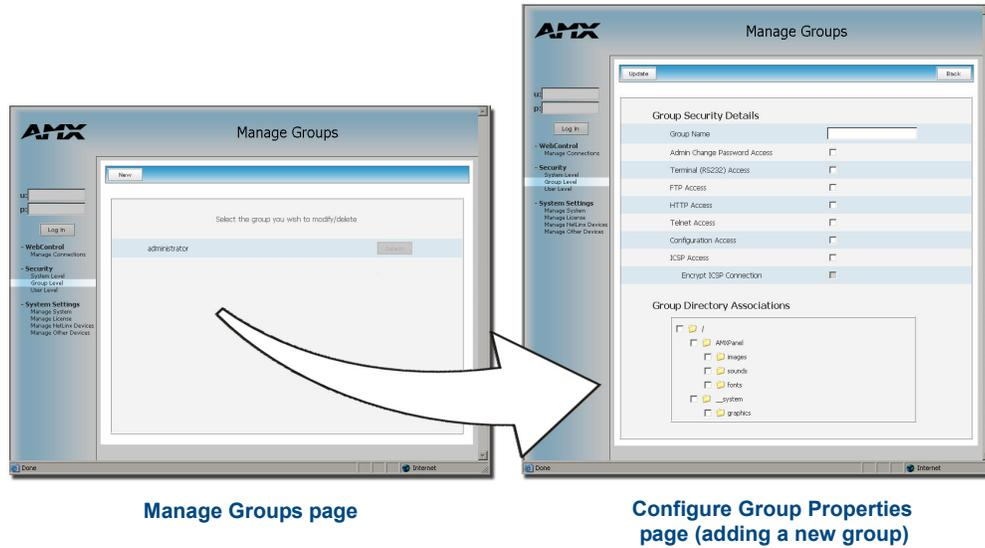

FIG. 39 Group Level Security - Manage Groups Security page
To access this page, click the **Group Level** link (from within the Security section of the Navigation frame). This page (FIG. 39) allows an authorized user to both select and modify an existing group, delete an existing group, or add a new group. Unless you are logged in with administrator privileges, you will not be allowed to modify the default administrator profile.
2. Click the **New** button to be transferred to the Configure Group Properties page (FIG. 39).
2. Press the **Select** button (*next to the selected Group name*) to open the *Configure Group Properties* page (FIG. 39) for the particular group.